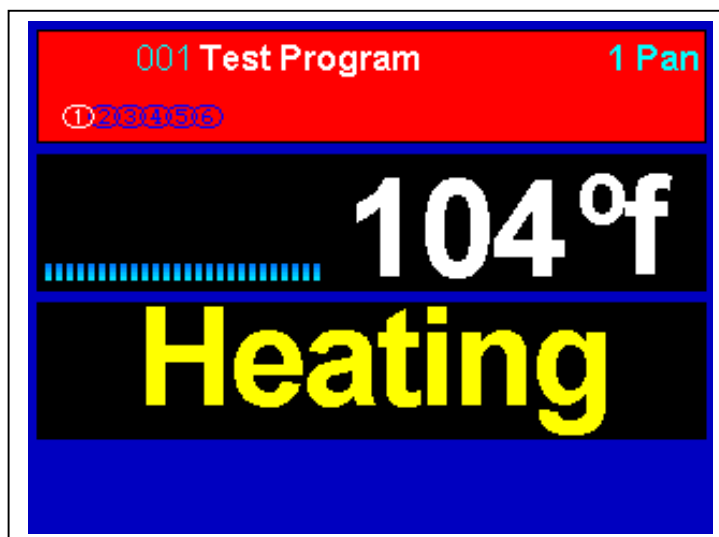

Fig 3
6. Choose 1, 2 or 3 pan buttons as required and oven will start to heat. (Fig3)